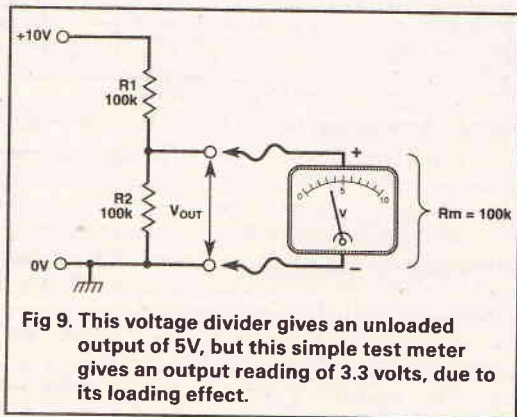

Fig 9. This voltage divider gives an unloaded output of 5V, but this simple test meter gives an output reading of 3.3 volts, due to its loading effect.
**ANALOGUE MULTIMETERS.** These consist of a good-quality moving coil meter with a wide span of switch-selected AC and DC voltage and current ranges, plus a battery-powered addition that enables the meter to indicate a wide range of resistance values. When using a simple multimeter, always consider its effect on the circuit under test; Figure 9 illustrates this point. Here, the  $R_1$ - $R_2$  divider gives an unloaded output of 5V, but when the meter is connected across the output its 100k  $R_m$  value shunts  $R_2$  and reduces its effective value to 50k, thus reducing the output voltage to the 3.3V value indicated by the meter.